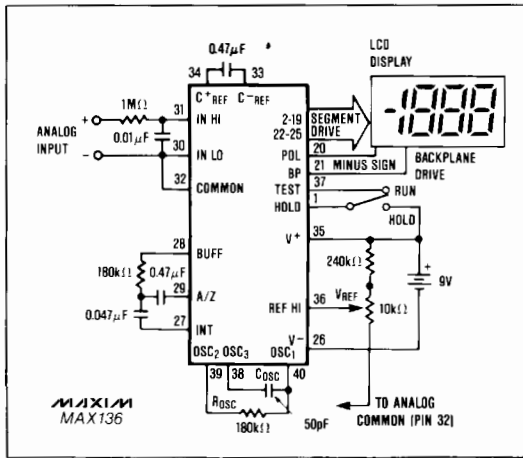

Figure 1. Maxim MAX136 Typical Operating Circuit, 200mV Full Scale.
(V+ = 9V; TA = 25°C; fCLOCK = 48kHz; test circuit - Figure 1 unless noted.)
**Note 3:** Test condition is VIN applied between pins IN-HI and IN-LO, i.e., 1MΩ resistor in Figures 1 and 2.
**Note 6:** 1MΩ resistor is removed in Figures 1 and 2.
are not updated; when the Hold input is low or at the Test voltage, the display is updated at the end of each conversion. The MAX136 maintains low power dissipation even during display hold by eliminating the pull-down resistor between Hold and Test present on the ICL7116. The Hold input is CMOS compatible, and can also be driven by a switch connected between Test and V+ (Figure 1).